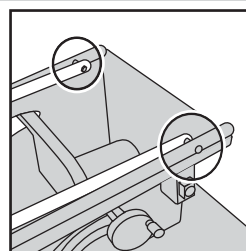

Fig. 8
- Repeat this step on both sides. (Fig 8)